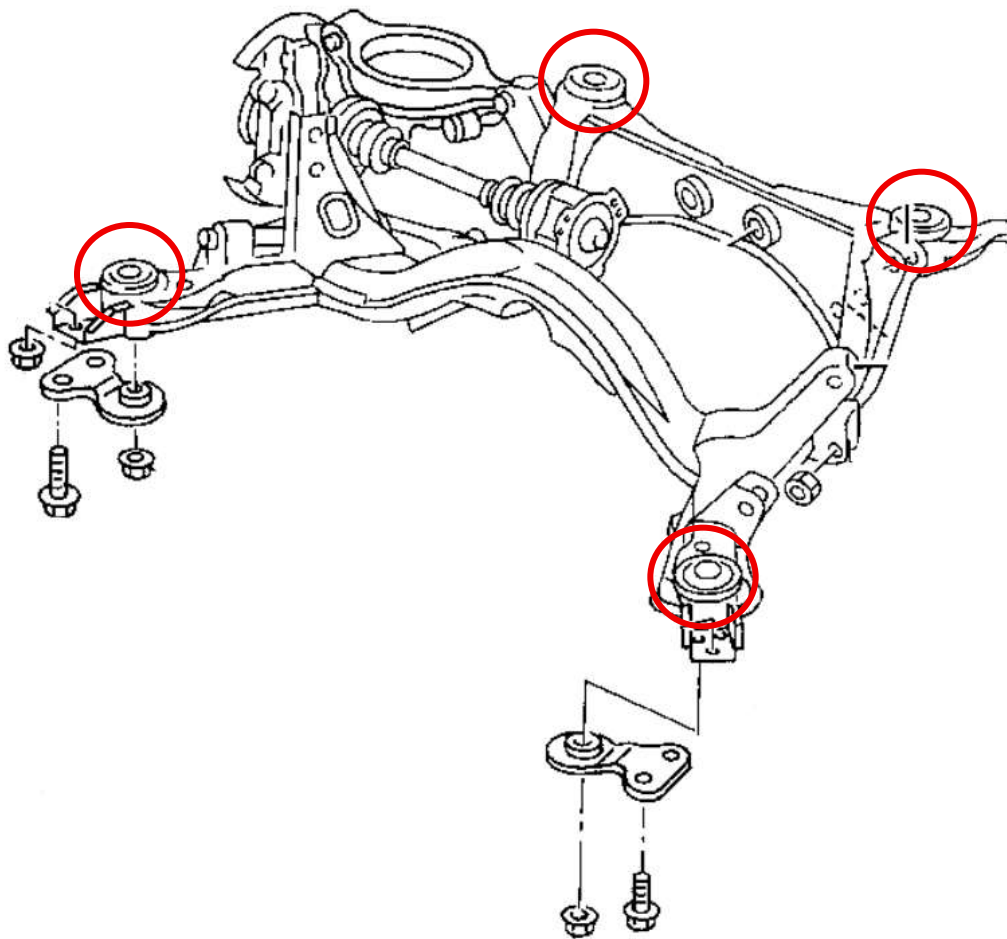

Figure 1
4. Remove the (4) four OE Rear Subframe Bushings, including the metal sleeves. *Figure 1*. There are a few ways to accomplish this: